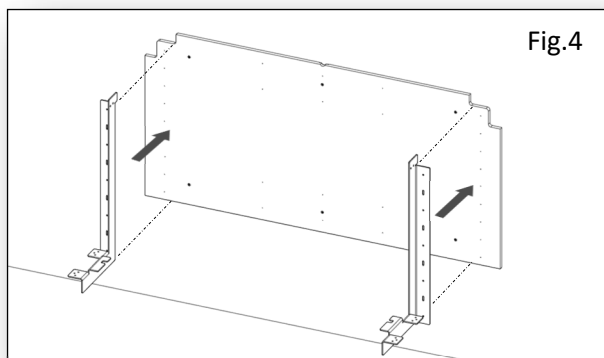

Fig.4
5. Once the Mount Board (L) has been securely fixed in place, the left and right side Wall Hung Brackets (G) can be screwed in place using the pre-drill mounting holes. 18x 20mm Dome Head Screws (F) have been supplied to securely fix the Wall Hung Brackets (G) to the Mount Board (L). **See Fig.4 & 5.**